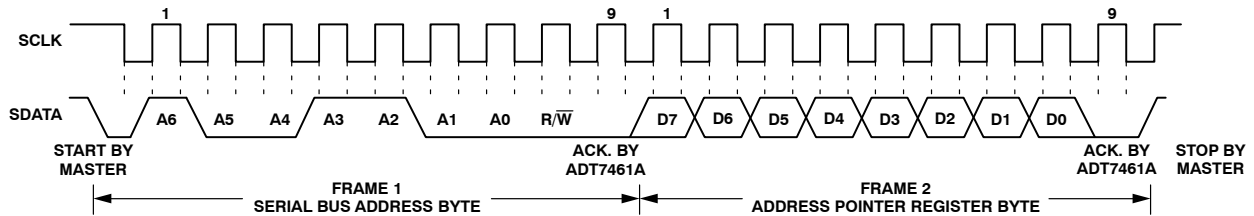

Figure 16. Writing to the Address Pointer Register Only
1. If the address pointer register value of the ADT7461A is unknown or not the desired value, it is first necessary to set it to the correct value before data can be read from the desired data register. This is done by writing to the ADT7461A as before, but only the data byte containing the register read address is sent, because data is not to be written to the register see Figure 16.
2. If the address pointer register is known to be at the desired address, data can be read from the corresponding data register without first writing to the address pointer register and the bus transaction shown in Figure 16 can be omitted.